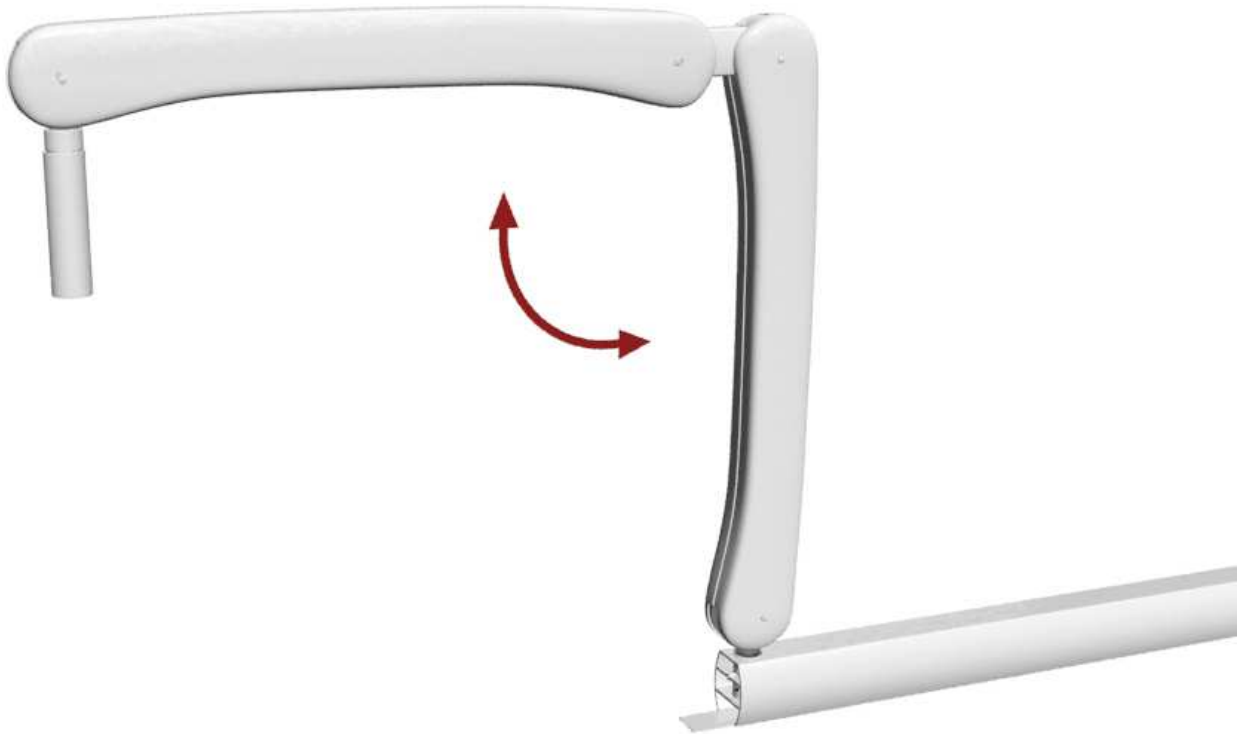

fig. 6
- ✓ Before inserting the monoblock (E) it is essential to work in safety by opening the double pantograph arm (C) as shown in fig. 6, to avoid that it snaps abruptly since it has the springs charged and calibrated to support the weight of the monoblock.